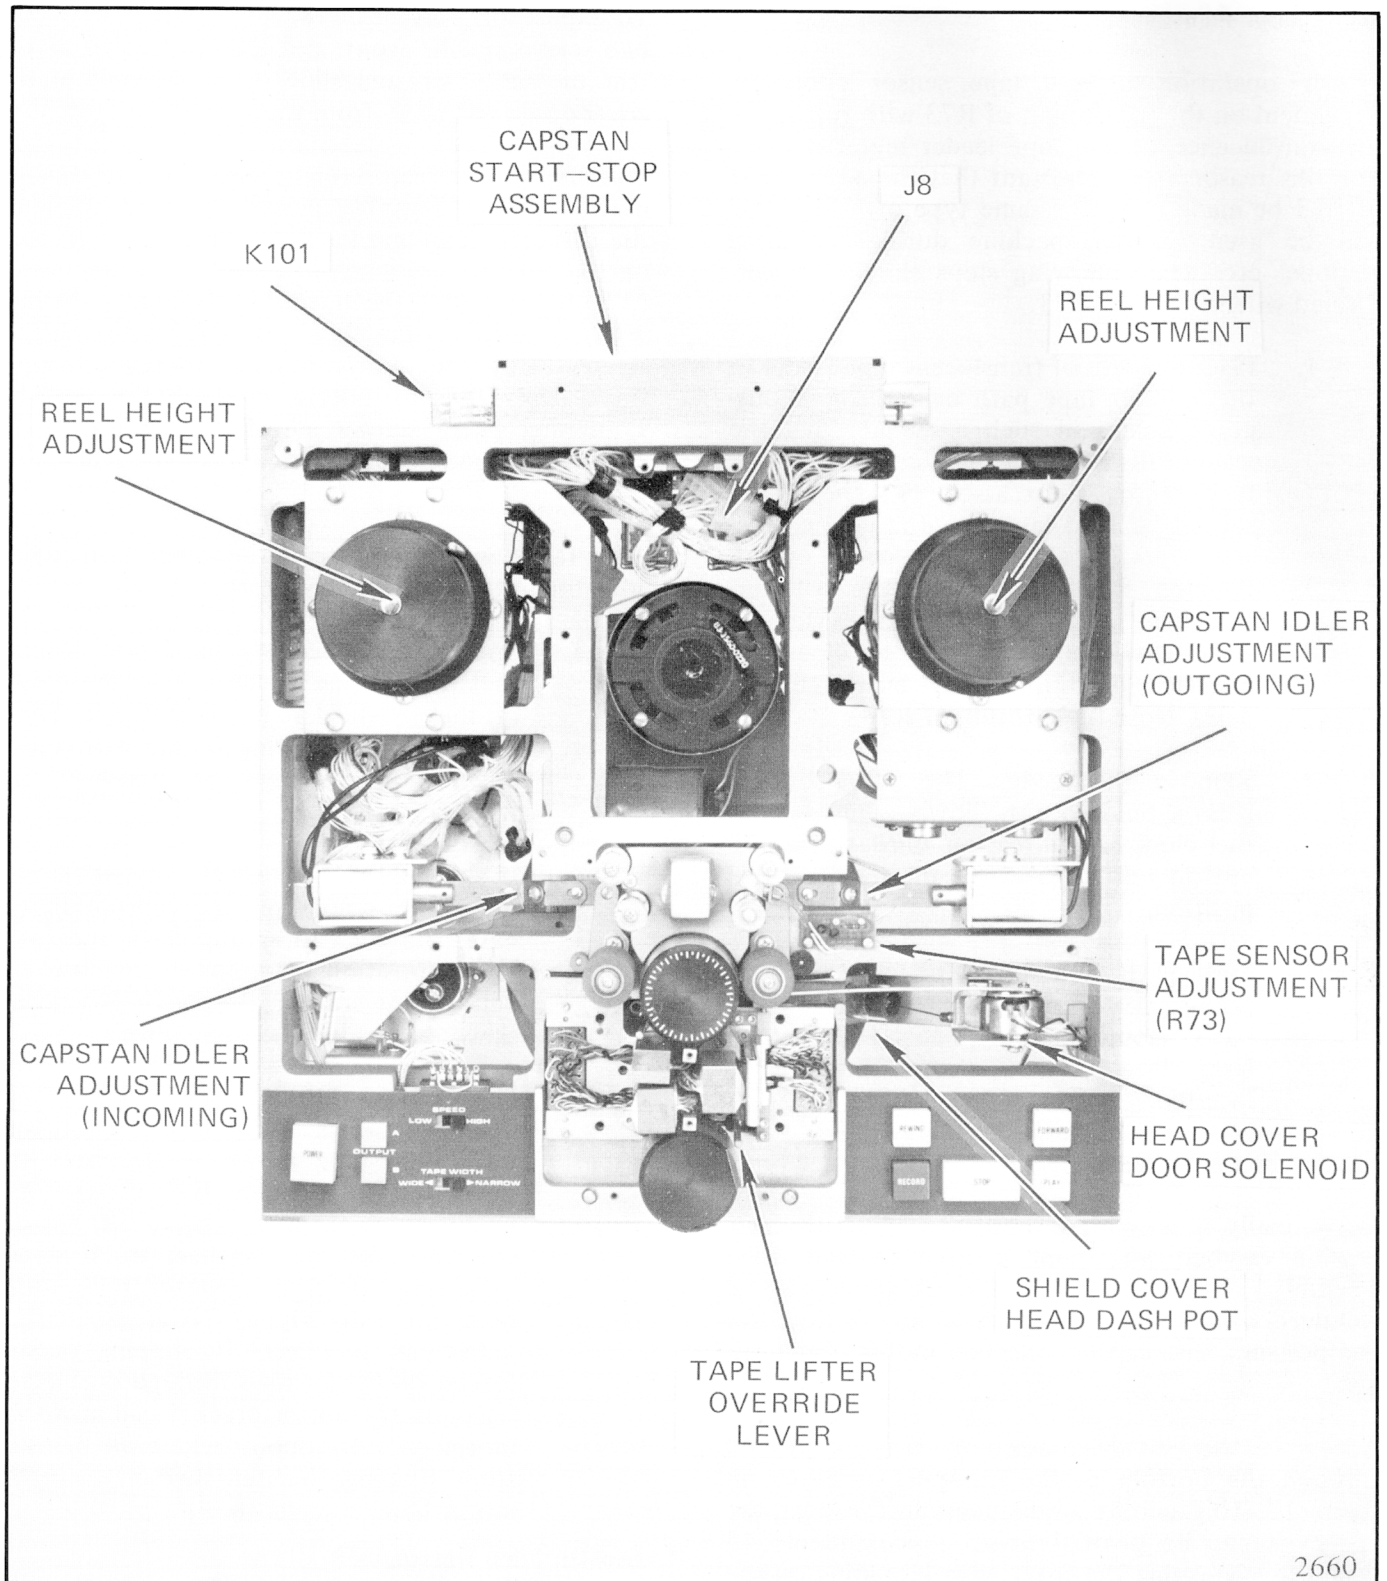

Figure 13. Transport Adjustments, Top View
Access to the adjustments located on the top area of the transport shown in figure 13 is obtained by removing the transport cover plate. If reels are on the machine, they should be removed. The cover plate is fastened to the transport by twelve screws; four of these screws are located on the top of the cover plate, and four each are located at the right- and left-hand sides of the transport. These screws secure the side trim plate as well as the flange of the top cover plate. After removing these screws, lift the cover plate up from the rear until the reel hubs clear the holes in the plate. Then slide the cover to the rear until the retaining clip on the front edge of the cover is disengaged. The cover plate can now be completely removed from the transport.
Capstan idler pressure is adjusted by means of a spring-loaded screw in the solenoid linkage which varies the linkage arm length. See figures 13 and 15. Perform the capstan idler pressure adjustment as follows:
Place the transport in the PLAY mode, observing the time required for the head shield cover to close after the PLAY button is pressed. The cover should close between 1/2 and 3/4 second. Adjust the head shield cover dash pot air port for the proper closing time. See figure 13. When the transport is placed in either the STOP, FORWARD or REWIND mode, the head shield cover should open immediately.
2. Moderate finger pressure on the tape lifter override lever (see figure 13) should allow